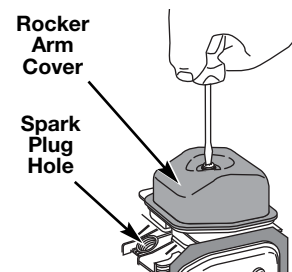

Fig. 35
5. Clean dirt from around the rocker arm cover. Remove the screw holding the rocker arm cover with a large flat blade screwdriver or Torx T-25 bit (Fig. 35). Remove the rocker arm cover and gasket.